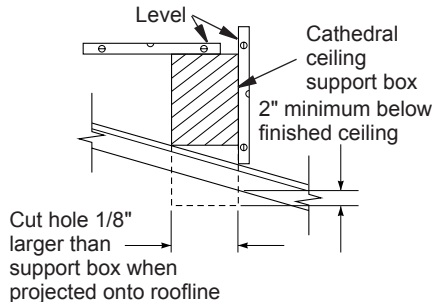

Figure 24 - Cathedral Ceiling Support Box Installation
2. Cut the hole $1/8''$ larger than the support box outline (see Figure 24).
3. Lower the support box through the hole in the roof until the bottom of the box extends at least 2" below the ceiling (see Figure 24). Align the support box vertically and horizontally using a level. Temporarily tack the support box in place through the inside walls and into the roof sheathing.